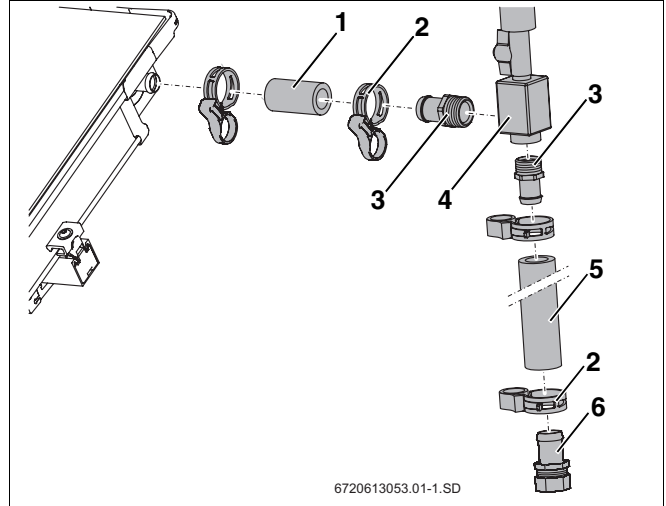

Fig. 60 Connecting the air vent valve on roof
- ▶ Push short solar hose (55 mm, Fig. 60, **Item 1**) onto the flow connection on the collector array and fix in place using hose clip.
- ▶ Firmly screw R $\frac{3}{4}$ hose nozzles with O-rings (Fig. 60, **Item 3**) into the air pot (Fig. 60, **Item 4**).
- ▶ Insert hose nozzles (Fig. 60, **Item 3**) into the solar hoses (Fig. 60, **Item 1** and **5**) as far as they will go, and fix in place using hose clips (Fig. 60, **Item 2**).
- ▶ Insert hose nozzle with compression fitting (Fig. 60, **Item 6**) into the solar hose as far as it will go, and fix in place with hose clip.
- ▶ Connect header pipe to the hose nozzle with compression fitting (22 mm) (Fig. 60, **Item 6**).